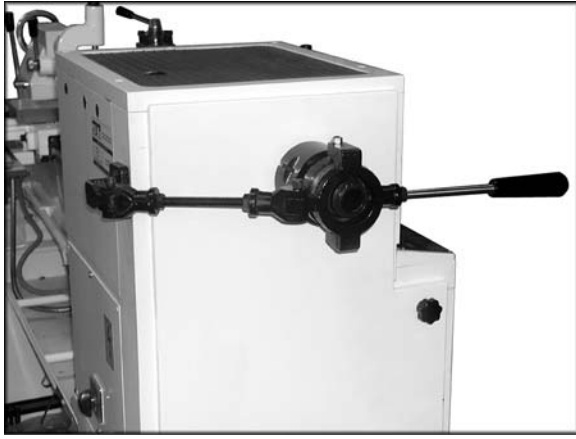

Figure 5
14. Assemble all linkage and attach to collet closer body (Figure 5).
15. With the help of another person, hold the collet closer in position with the mounting foot against the rear of the end train cover. Note: the bearing shaft should be centered in the bearing body, (Figure 5).
20. Connect and adjust all linkage so that the bearing shaft is centered in the bearing body, (Figure 5).